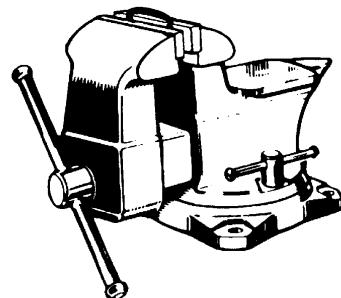

Figure 6
- Insert one link lengthwise into a vise (Figure 6). Be sure that the side opposite the weld lies completely below surface of vise jaw (about 1/3 of a link). This prevents nicking or cutting the lower part of the link.